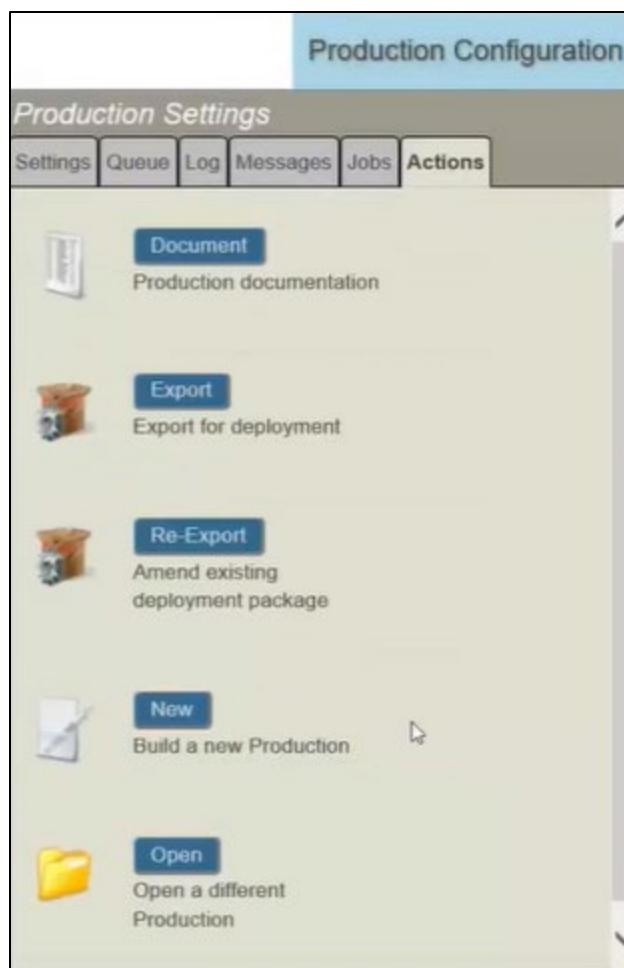

Figure 3-8: Actions Tab
2. On the **Actions** tab, click **Open** (Figure 3-8).